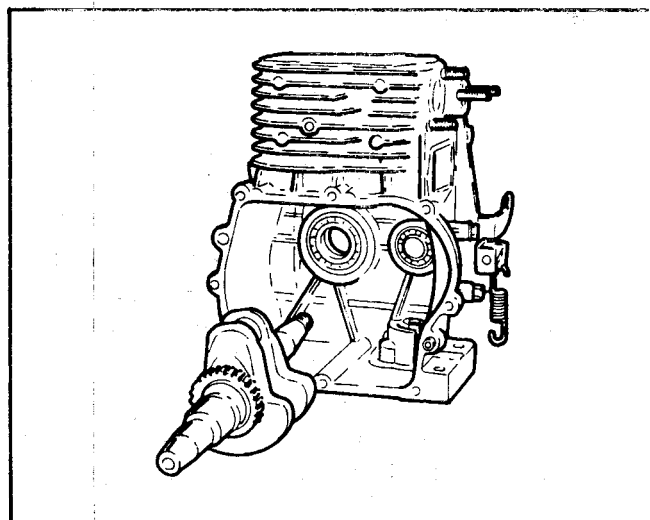

Figure 81
39. The crankshaft may now be removed. See Figure 81.